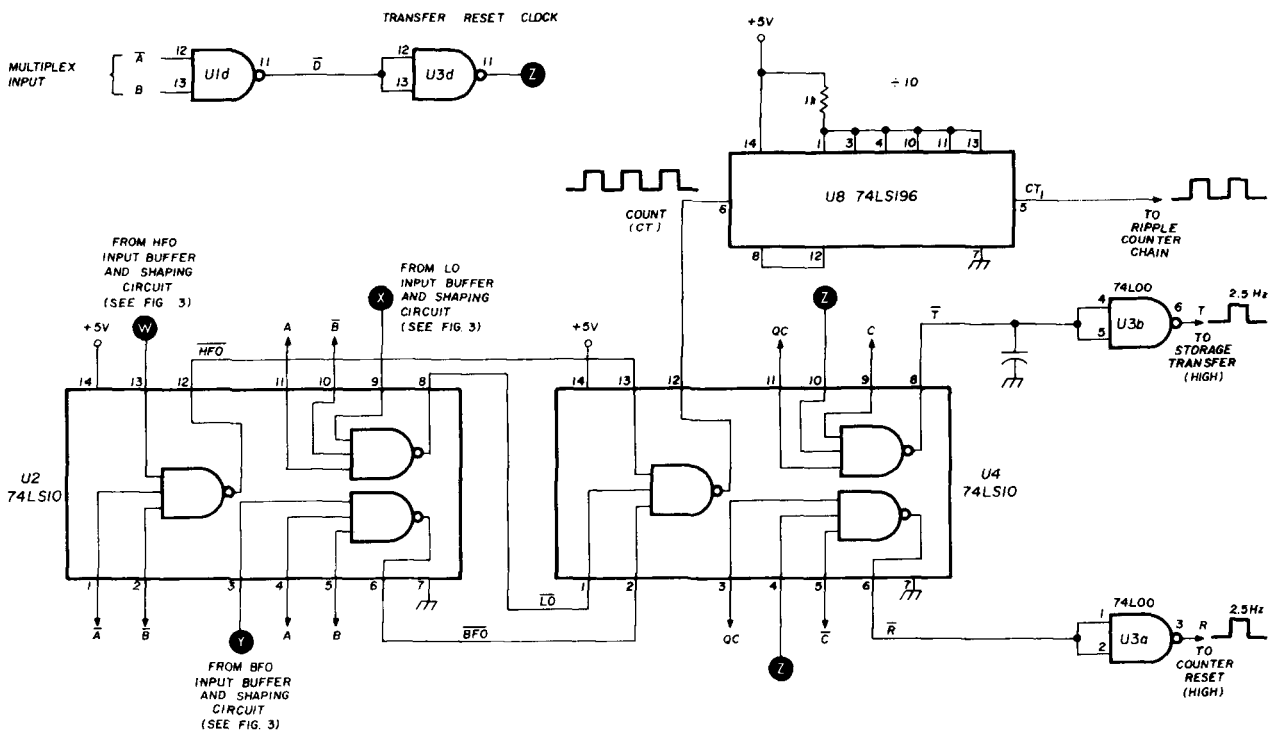
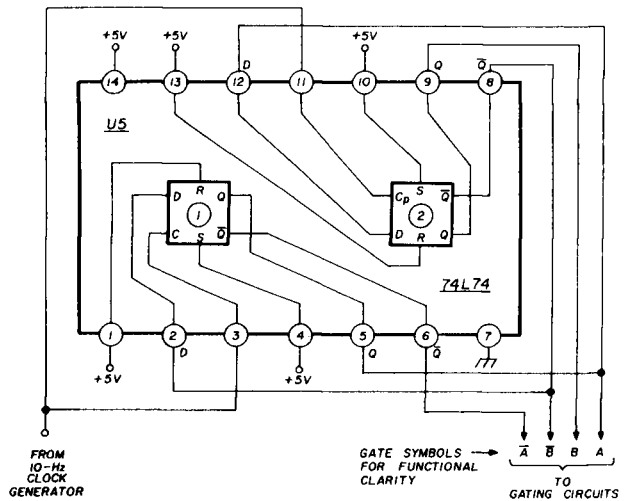
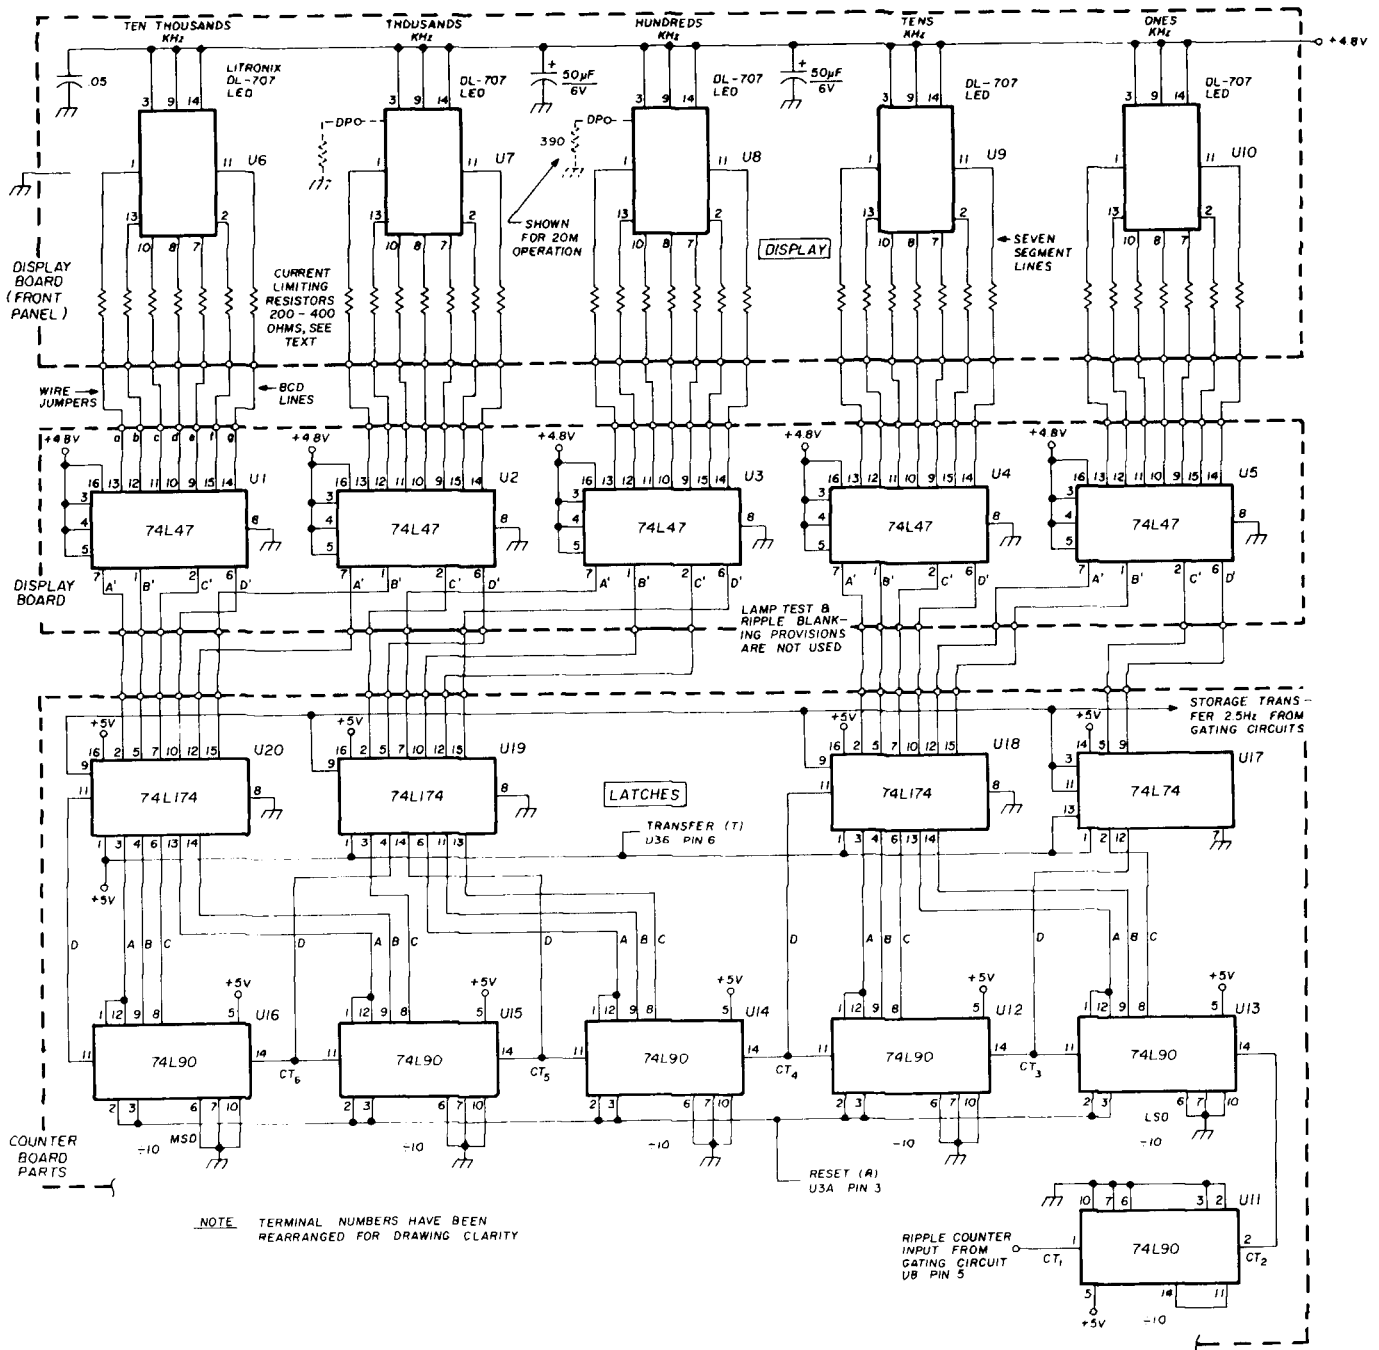
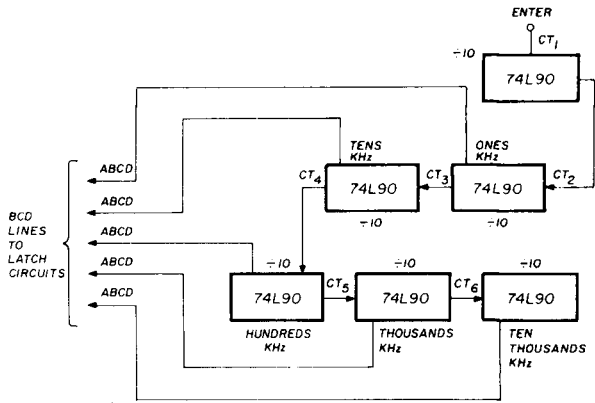

fig. 5. Gating circuits; counter section schematic.
fig. 6. Multiplex gate control generator; counter section schematic.
fig. 8. Ripple counter, latch, and segment display schematic.
fig. 9. Ripple counter functional diagram.
fig. 9. Bandpass filter built from two half sections provides only half as steep a filter slope compared with circuit of fig. 8, although the number of coils is two in each case. The actual filter is to the left of the dotted line.
Because we're using active low outputs from the U2 gates (fig. 5), the 3-input NAND gate of U4 at pins 1, 2, and 13 will have at least two lines high during a count cycle state, allowing the count to proceed to U8. During the multiplexer state $\bar{A}B$, the lines from U2 output are all high; thus pin 12 of U4, the gate output, is low and inhibits all pulse-train activity.
A complete schematic of the gating scheme is illustrated in fig. 5. The individual gates are controlled by the multiplexer to pass through a control gate and first decade counter. In addition, the multiplexer
U1 and U3 gates provide the transfer reset clock, which is strobed by QC, clock (C), and NOT clock (\bar{C}), as shown in **fig. 5** using two 3-input NAND gates of U4. Since the output is active low, and transfer and reset occur on the leading edge of a pulse, two additional 2-input NAND gates (U3) invert the pulse to the correct polarity. The heart of the multiplexer system is a simple dual-D flip-flop (**fig. 6**), which generates a series of gate control pulses: 00, 01, 10, 11. These pulses, in combination with the clock, provide a continuous series of multiplex control lines: (000, 001, 010, . . . 111), so that the various counter states are derived for count, transfer, and reset at specific timing intervals.
Ripple counter and display circuits. The ripple counter, latch drivers, and display are shown in **fig. 8**. The system is straightforward, but let's see just what's happening. From **fig. 5** we have gated three
These are the counts passing through the count output gate to the first decade divider, U8 (fig. 5). After
Fig. 8 refers to the ripple counter input as CT₁. This 141.25 kHz train first passed through an additional decade divider to produce CT₂. In our example, this would now be a pulse train at a 14.125-kHz rate. Fig. 9 shows the functional diagram of the ripple-counter action. CT₁ enters a divide-by-10 stage; its output is CT₂. CT₂ enters a decade divider